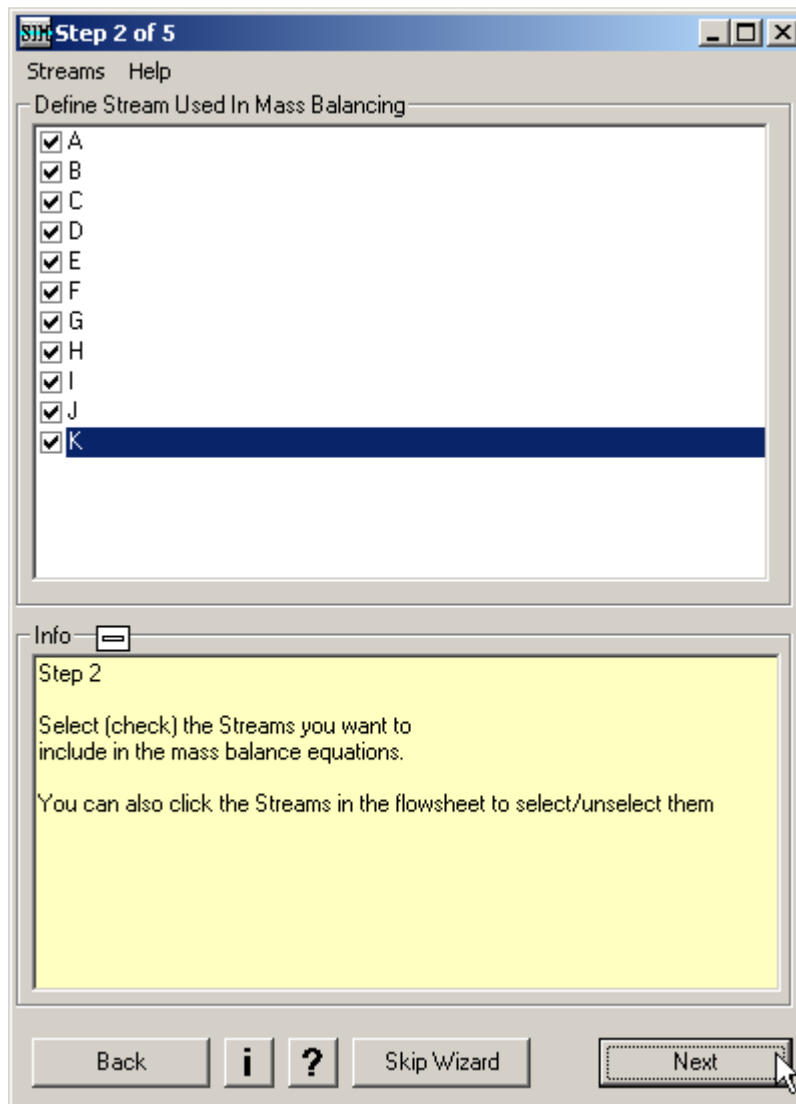

Figure 12. Step 2.
3. In the second wizard window (step 2 of 5) check that all streams are selected for the mass balancing (Figure 12). Press Next.